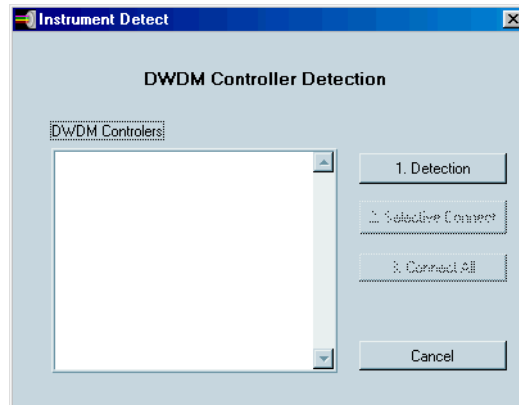

Figure 2-2. Instrument Detect Window
1. From the menu bar, select **Instrument** → **Detect...** to display the Instrument Detect window shown in Figure 2-2.: